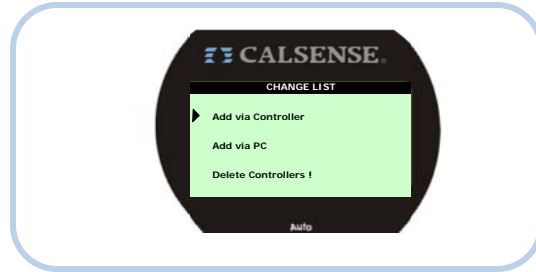

Figure 8.3
5. Move the cursor to **ADD VIA CONTROLLER** (Figure 8.3).